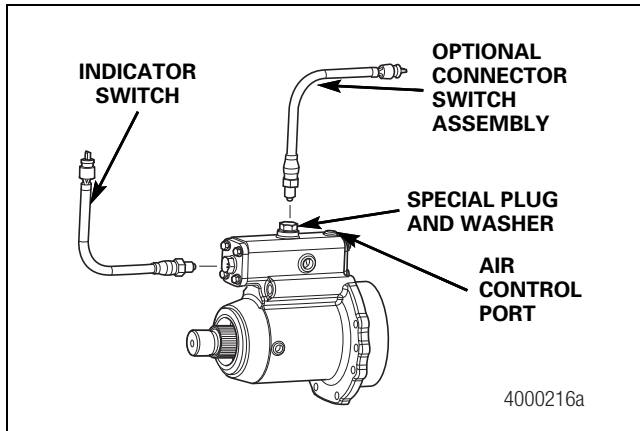

Figure 7.5
3. Install the indicator switch. Tighten the switch to 25-30 lb-ft (34-41 N•m). Figure 7.5.
2. Verify that the indicator switch closes when the PTO completes a shift to engage the drive. Figure 7.5.